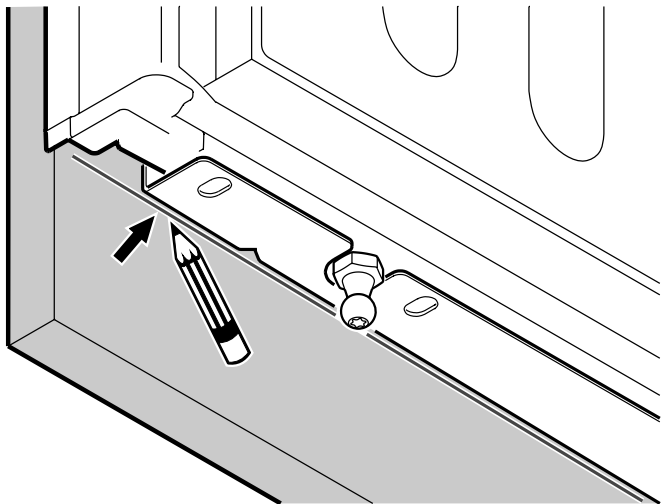

Figure 27
6. Transfer the lower edge of the attachment bracket onto the panel using a pencil (**Figure 27**). Remove the panel from the refrigerator door.